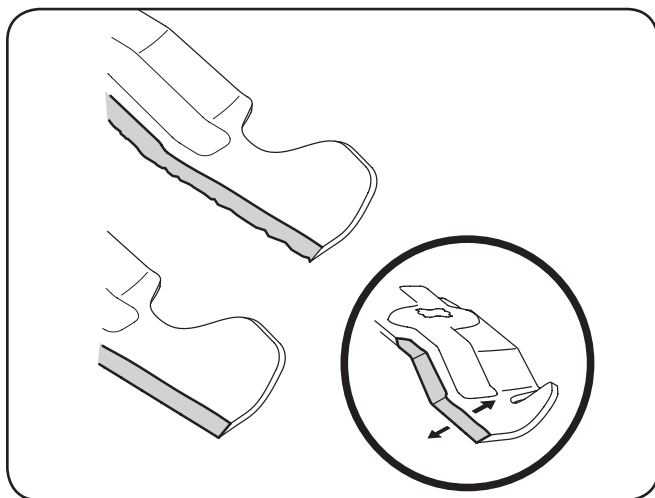

Figure 7-9
4. To properly sharpen the cutting blades, remove equal amounts of metal from both ends of the blades along the cutting edges, parallel to the trailing edge, at a 25°- to 30° angle. Always grind each cutting blade edge equally to maintain proper blade balance. See Figure 7-9.